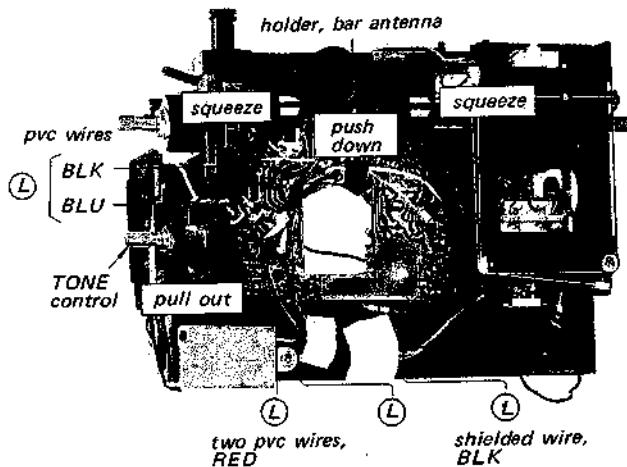

Fig. 2-9.
9. Pull out the TONE control with holder shown in Fig. 2-9.
8. Unsolder the six wires (BLU, two BLK, two RED and shielded wire) labeled (L) in Fig. 2-9.